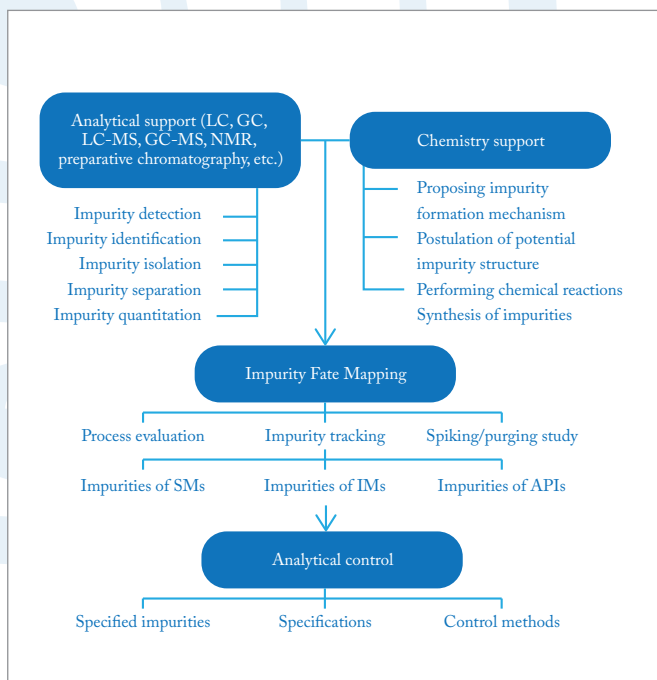

Figure 1. General outline of the impurity fate mapping framework (3).
necessary and this is where support from chemistry colleagues is required, see Figure 1 (3). The non-targeted detection of impurities is considered the first step in the entire “impurity fate mapping framework”. The concentration levels with respect to the main compound are often below 0.1 percent, and generally, if they are above this limit, they must be identified. For (geno)toxic impurities the limits for reporting and identification are lower. Different complementary analytical methods are applied and the information is combined, based on the results and toxicological data specifications are chosen for quality control.